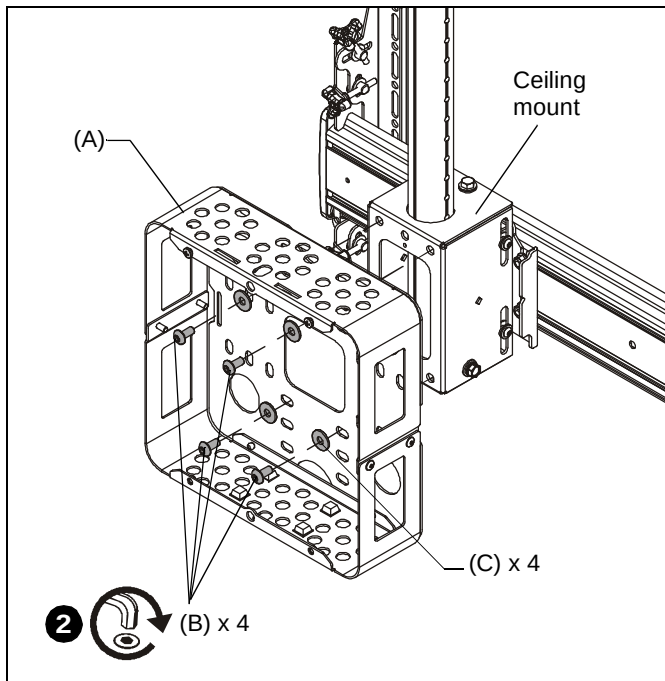

Figure 8
2. Attach FCA510/FCA515 (A) to back of ceiling mount using four 5/16-18 x 1/2" buttonhead screws (B) and four 5/16" flat washers (C) installed into back of ceiling mount. (See Figure 8)